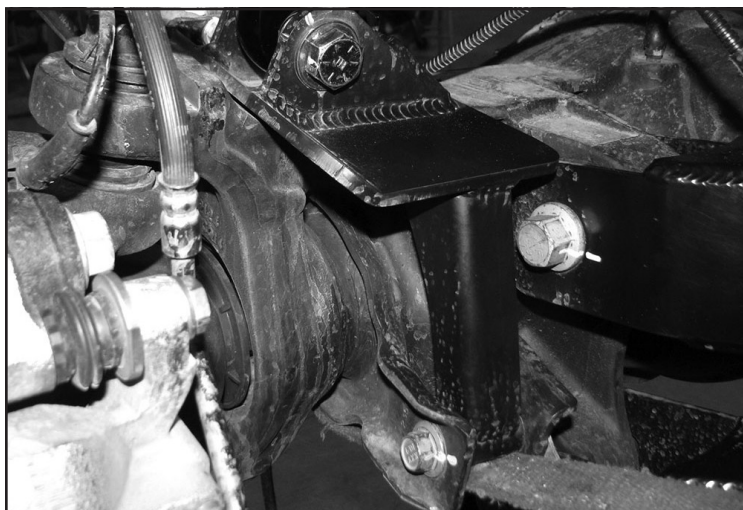

FIGURE 12 - STEP 16
16. Install FT30717 (Driver lower coilover mount) onto the driver side of the axle using the factory shock hardware at the factory shock location and M14 X 30mm bolt and washer at the lower spring perch location. Torque factory hardware to 100 ft-lbs and M14 to 160 ft-lbs. **SEE FIGURE 12.**